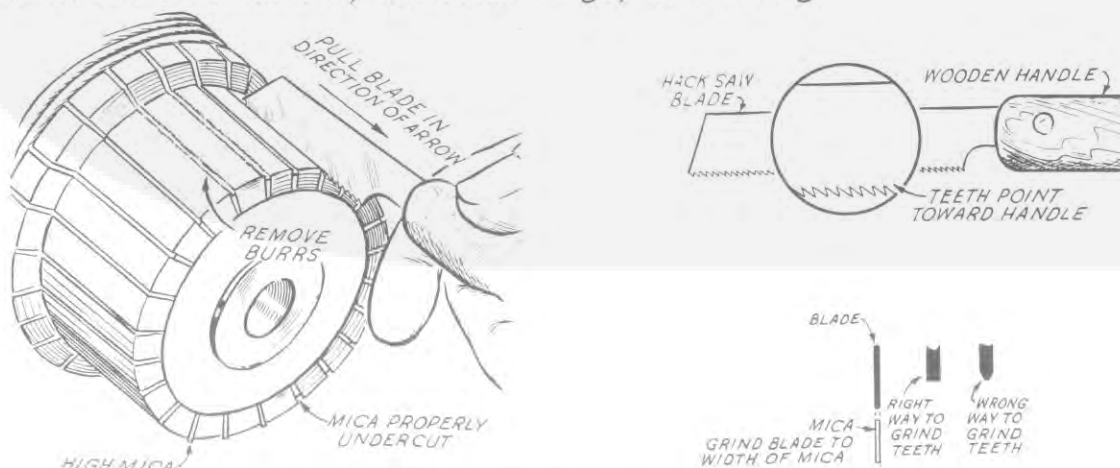

FIG. 44 - COMMUTATOR REPAIR
**COMMUTATOR.** - The commutator bars wear down with usage so that the mica between them must be undercut. This should be done as soon as the mica on any part of the commutator touches the brushes. A suitable undercutting tool can be made from an old hack saw. Use it as shown in Fig.44. Avoid injury to the surfaces of the copper bars. Leave no burrs along the edges of the bars. The mica must also be undercut whenever the commutator is refinished.